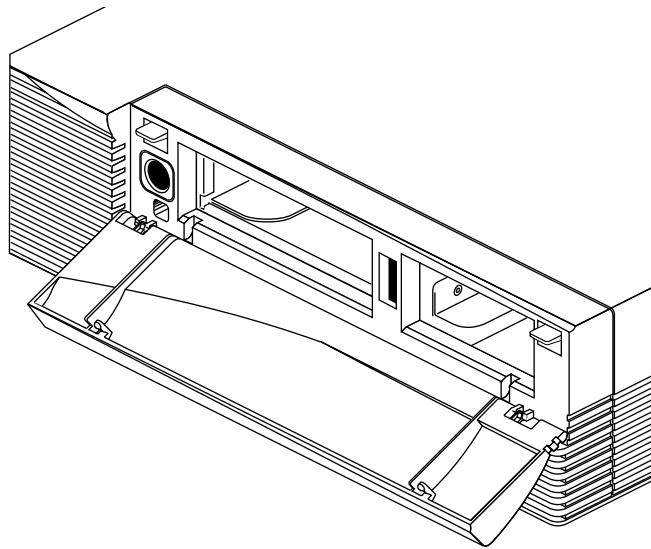

Figure 2-32 Opening the Front Cover
1. Open the front cover of the chassis, as shown in Figure 2-32.
- Snap the cover away from the top edge of the chassis and tip it down, as shown in Figure 2-32.